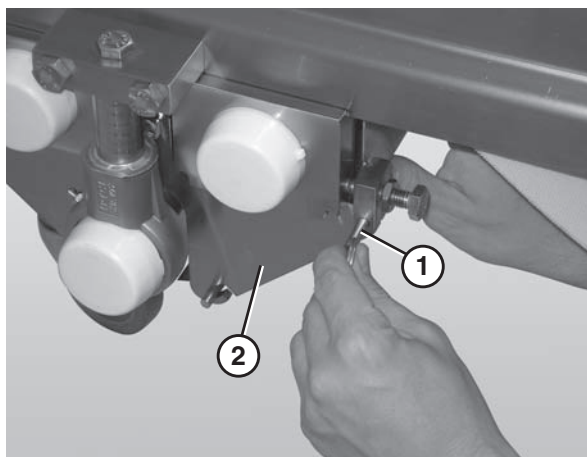

Figure 15
2. Remove the 2 pull pins (**Figure 15, item 1**) from the center drive side plate (**Figure 15, item 2**).
11. Insert the pull pins (**Figure 15, item 1**).